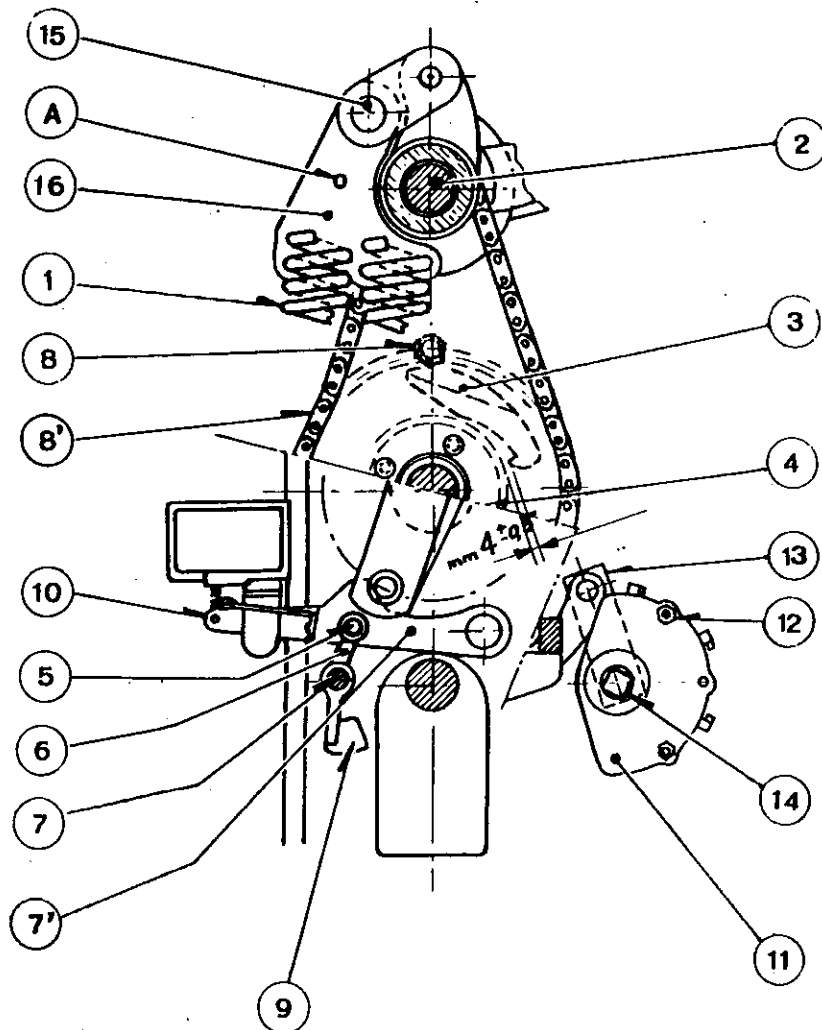

Fig. 10
- wear of lever (7) (fig. 10)
- clearance between the ratchet pawl (3) and the sprocket wheel (4) not to prescriptions; adjust as instructed under § 6.6.
6.2. Troubles to the spring loading motor or to the pitch chain (8') (fig. 10)
6.6. Adjustment of the clearance between the ratchet pawl (3) and the sprocket wheel (4) to prevent undue stresses to the pitch chain or to the spring loading motor (fig. 10)
6.7. Checking of the trip bar (7) for closing the breaker (fig. 10)
- fix the unit to the dividing plate by means of bolts (12) and plate (13)
- connect the supply cables to the terminal board (1) through the contact CR as shown on tables V, VI, VII, having care that the cables do not contact the moving pieces of the operating mechanism
7.5. Auxiliary switches type CR (11) (fig. 10)